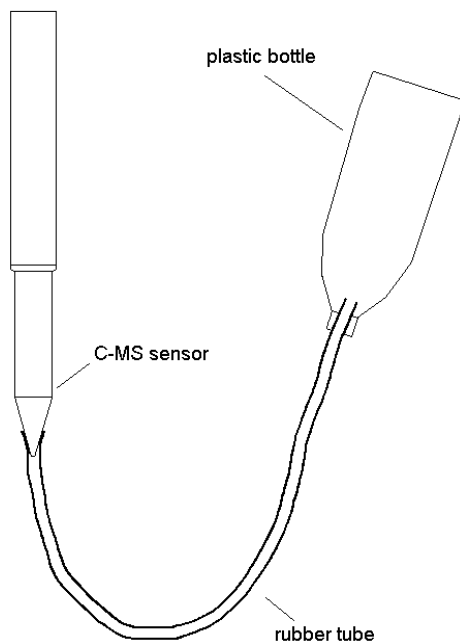

Figure 2
3. Use a plastic bottle with a rubber tube as shown in figure 2 to pump the sea water from the sucking chamber of the C-MS sensor